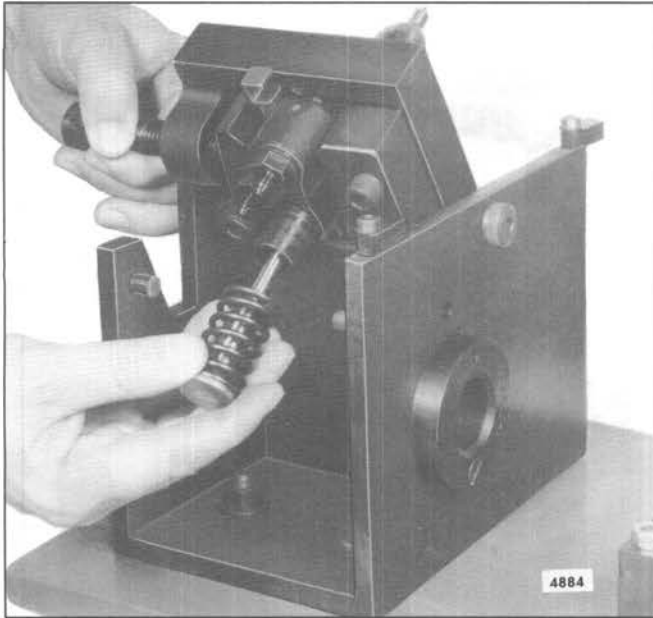

Fig. 11 – Removing or Installing Plunger Follower, Plunger and Spring
3. Refer to Fig. 11 and remove the plunger follower, plunger and spring as an assembly.